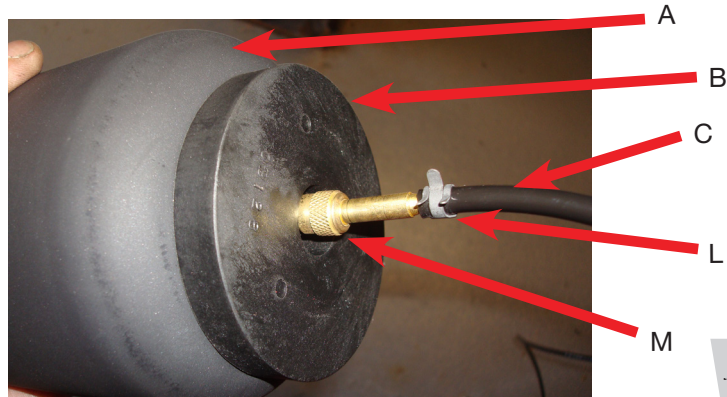

fig. 6
1. Cut the air line (C) in two equal lengths and install the straight pump connector (M) and air line clamp (L) on one end of each air line. Remove the valve cap off the air spring and screw the pump connector on the stem finger tight. Slide an air spring protector (B) over each hose and onto the top of the air spring (A) (Fig. 6).